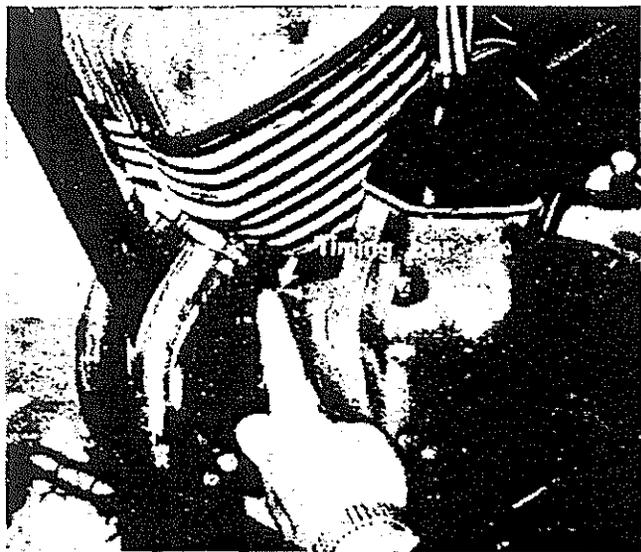

Fig. 23
- (1) Remove spark plug of right cylinder.
- (2) Rotate rear wheel with gear in mesh (any gear) and stop the piston at top dead center.
- (3) Push the **timing button**—rotate rearwheel clockwise until the button snaps into the hole in crankshaft arm after taking off 8×12 hexagonal bolt on the crank case. (Fig. 23)